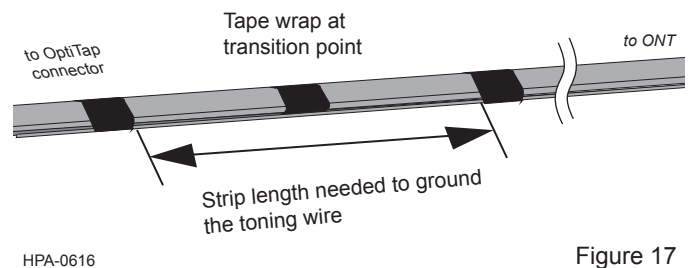

Figure 17
- a. Determine how much wire is needed for grounding outside of the transition point/hardware. Measure and mark this second length on the wire’s MDPE outer jacket (Figure 17).